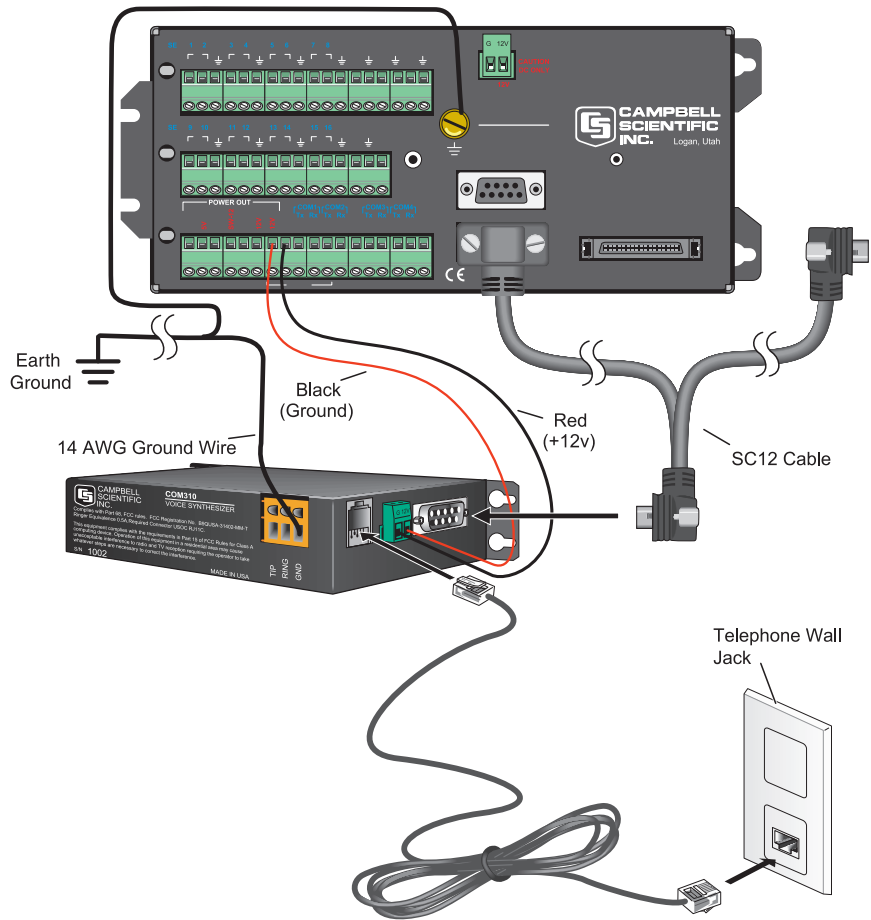

FIGURE 4. COM310 Grounding and Alternate 12VDC Power
Newer Campbell Scientific dataloggers provide 12 VDC on CS I/O connector pin 8 for powering peripherals such as the COM310. The alternative, if you have a datalogger/wiring panel lacking 12 VDC on pin 8, is to wire the green connector on the side of the COM310 to the datalogger +12 VDC and power ground terminals (refer to Figure 4). The COM310 comes with a mating green power connector for this purpose. The following Campbell Scientific dataloggers lack 12 VDC power on CS I/O pin 8.
**A quality EARTH GROUND connection to the COM310 and datalogger maximizes protection against electrostatic discharge! Follow carefully the EARTH GROUND scheme in Figure 4. The COM310 employs spark gaps on the phone lines; however, they will be ineffective without quality earth grounding.**